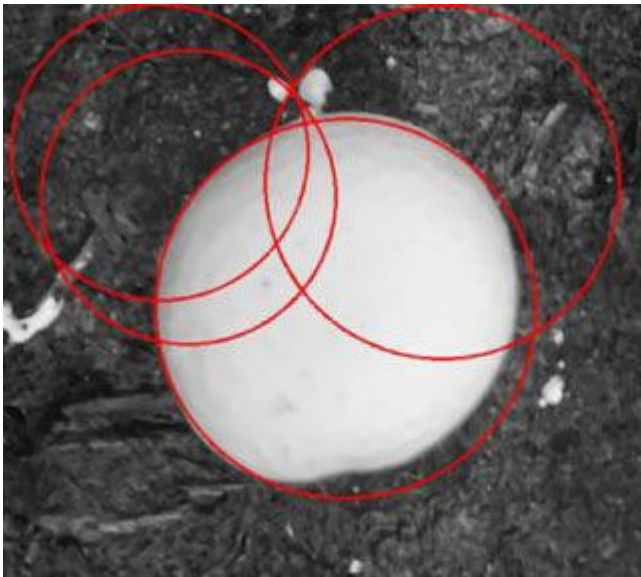

Figure 5. The computer checks different circles against the detected edges. Circles that match the most edges are marked as possible mushrooms.
2. Searching for circular shapes: Once the edges are found, the algorithm looks for circles of different sizes and positions. Each edge pixel "votes" for the circles it might be part of. The circles that get the most votes are picked as the best matches. Figure 5 shows some examples of these possible circles.